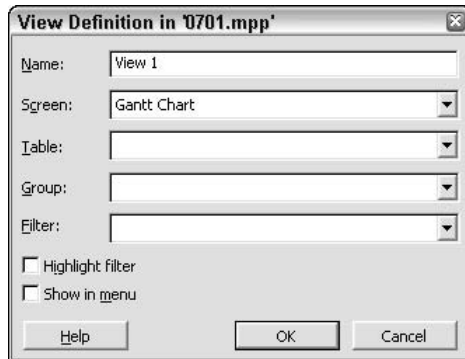

Figure 7-10: Use this dialog box to name and describe your new view.
3. Select the Single view option, and click OK. The View Definition dialog box opens, as shown in Figure 7-10.